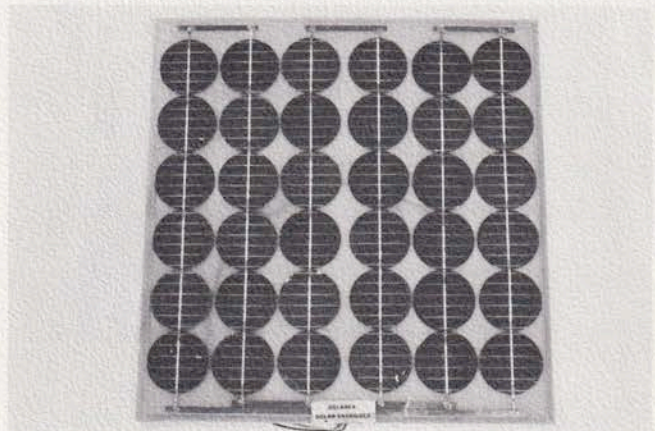

Fig. 3 Type 480 Unipanel
- 14 Volt Unipanel—all contain 36 solar cells connected in series (Figs. 3 and 4)